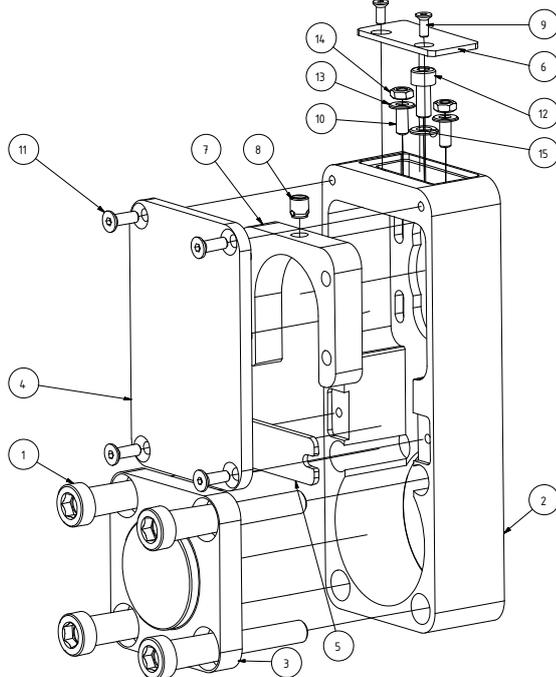
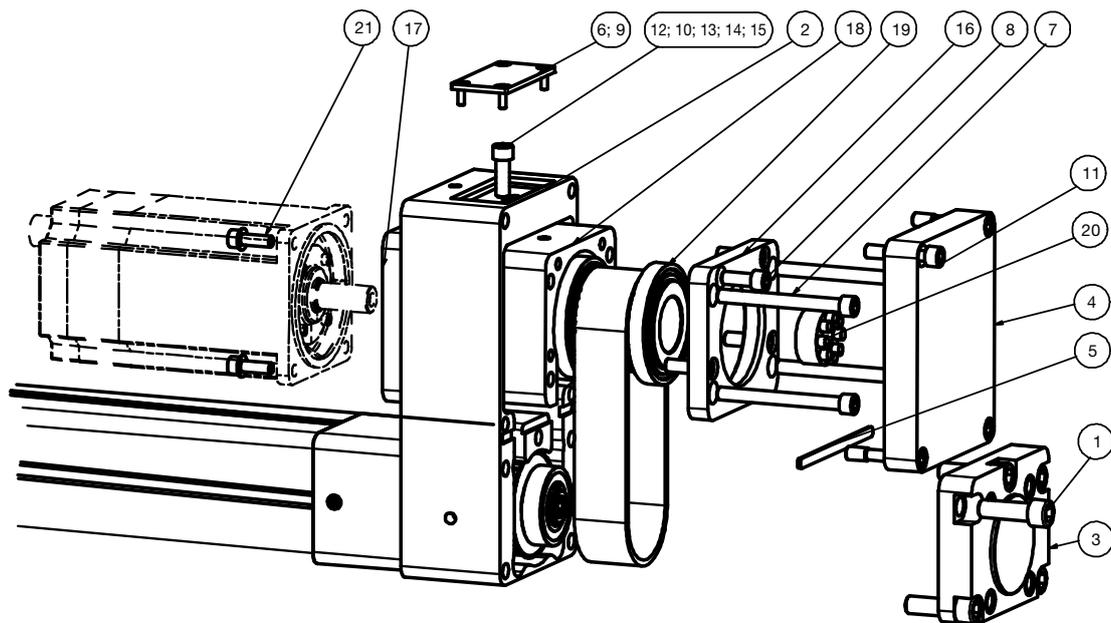

Figure 36: Parallel housing (2)
Figure 38: Exchanging the tooth belt ETH1xx
For visual inspection, you must only remove the (upper) lid with the four screws (see Figure 36 & Figure 38 Pos.4+11).
- ◆ Loosen and remove 4 screws (please refer to Figure 36 Pos.1).
- ◆ Remove cover (please refer to Figure 36 Pos.3).
- ◆ Remove bar (please refer to Figure 36 Pos.5).
- ◆ Insert bar (please refer to Figure 36 Pos.5).
- ◆ Replace cover (please refer to Figure 36 Pos.3).
- ◆ Align gearbox (please refer to Figure 36 Pos.2) with the electro cylinder.
- ◆ Tighten 4 screws (please refer to Figure 36 Pos.1) with the given tightening torque.
- ◆ Mount lid (please refer to Figure 36 Pos.6) with screws (please refer to Figure 36 Pos.9).
- ◆ Mount lid (please refer to Figure 36 Pos.4) with screws (please refer to Figure 36 Pos.11).
- ◆ Slightly loosen 4 screws (please refer to Figure 38 Pos.7) by 1 or 2 turns.
- ◆ Loosen central toothed belt tensioning screw (please refer to Figure 38 Pos.12). The drive unit must lower slightly when the tensioning screw is loosened.
- ◆ Loosen tightening screw (please refer to Figure 38 Pos.12) until the drive unit is not lowered any further.
- ◆ Loosen 5 screws (please refer to Figure 38 Pos.1) and remove lid (please refer to Figure 38 Pos.3). If the lid can not be removed easily (please refer to Figure 38 Pos.3), try to remove it with a slightly pivoting movement.
- ◆ Remove middle bar (please refer to Figure 38 Pos.5) with seal.
- ◆ Loosen 4 screws (please refer to Figure 38 Pos.8) of the upper bearing flange (please refer to Figure 38 Pos.16) (do not remove entirely).
- ◆ Unscrew 4 screws (please refer to Figure 38 Pos.7) and remove motor flange (please refer to Figure 38 Pos.17).
- ◆ Completely unscrew toothed belt tensioning screw (please refer to Figure 38 Pos.12).
- ◆ **ATTENTION!** Secure upper bearing unit (please refer to Figure 38 Pos.18) against falling.
- ◆ Remove upper bearing unit with toothed belt (please refer to Figure 38 Pos.18).
- ◆ Loosen four screws (please refer to Figure 38 Pos.8) of the upper bearing flange and remove bearing flange (please refer to Figure 38 Pos.16) from the bearing (please refer to Figure 38 Pos.19).
- ◆ Remove hollow shaft with the two bearings (please refer to Figure 38 Pos.19) from the bearing housing (please refer to Figure 38 Pos.18).
- ◆ (please refer to Figure 38 Pos.2,3 and 4) must be sealed with Atomsit.
- ◆ Seal middle bar (please refer to Figure 38 Pos.5) with the seal or with Atomsit.